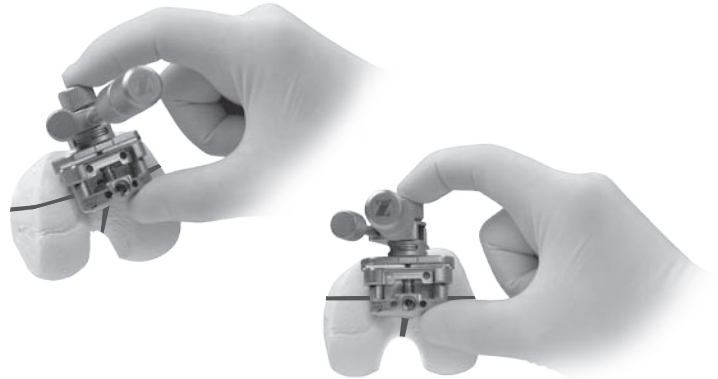

Fig. 10
- If using transepicondylar axis or line perpendicular to the A/P axis, rotate until the horizontal lines on the guide are parallel to the marked lines. (Fig. 10).